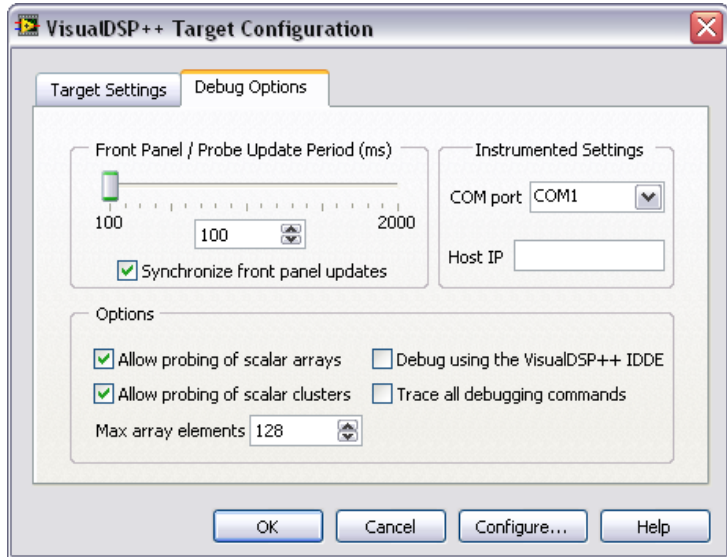

Figure 12. Configuring the Debugging Options
6. Change the **Front Panel/Probe Update Period (ms)** to 100 by moving the slider or typing 100 in the numeric control under the slider as shown in Figure 12. This setting configures how often the front panel updates with data from the Blackfin application.